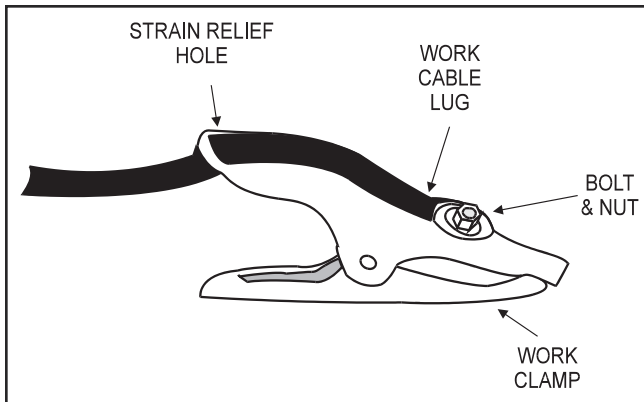

FIGURE A.6 - Installing The Work Clamp
1. Insert the lug on the end of the work cable through the strain relief hole in the work clamp handle. See Figure A.6.